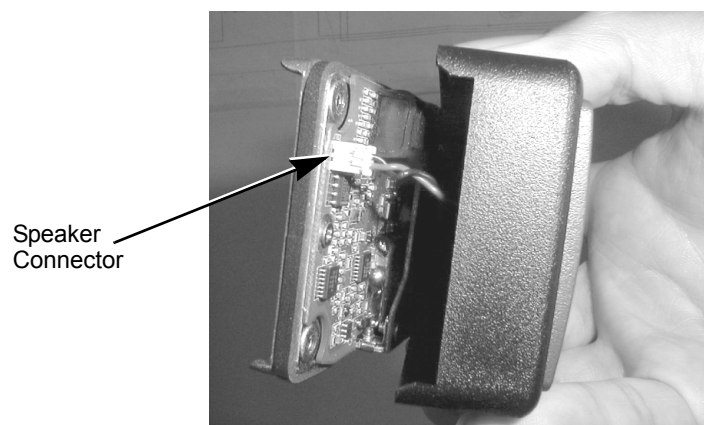

Figure 2-3.
7. Lift the rear chassis away from the front cover (See Figure 2-3). Be careful not to damage the speaker wire underneath.